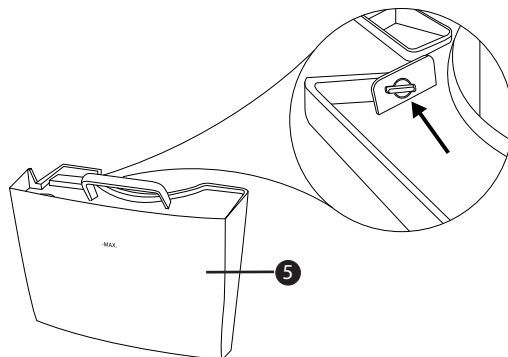

Fig. 7
- ◆ In order to clean the inside of the water tank 5, you must remove the black lid. To do this, release the carrying handle from the retainer while pressing it out sideways. Ensure that the pins on the handle line up with the grooves on the water container (see fig. 7).